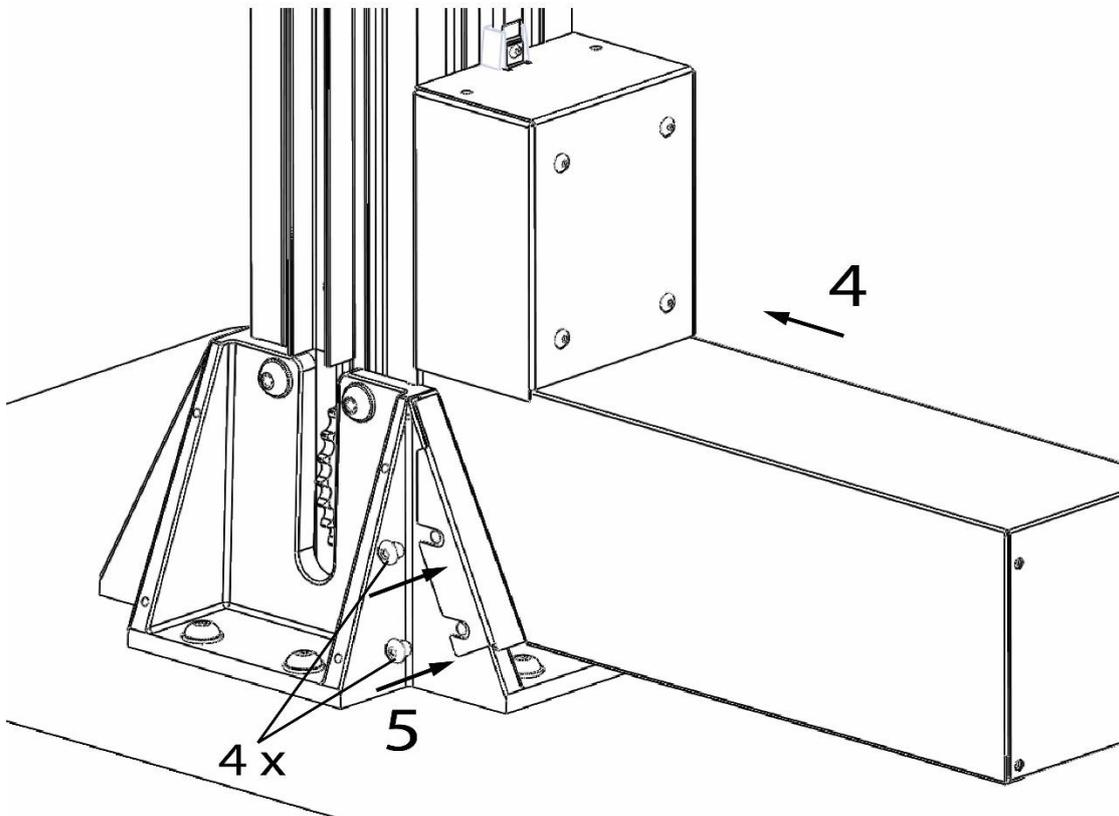

Figure 5: Reinstallation of motor cover
9. Reinstall the motor cover (**figure 5**).